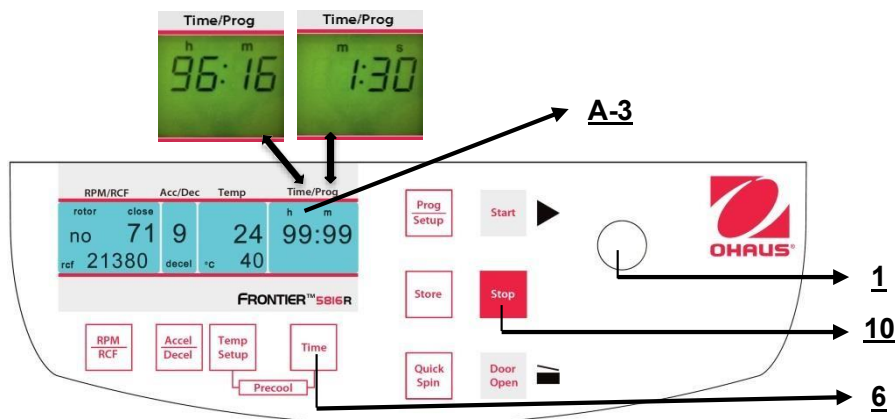

Figure. 20
3. The continuous run "cont", which can be interrupted by the key "Stop"(10) (refer to figure 20).
If the samples are temperature-sensitive it is useful to pre-cool the centrifuge, the rotor and eventually the buckets to the required working temperature. Therefore, insert the desired rotor and pre-set the respective temperature. By simultaneous pressing the keys **"Temp/Setup"** (13) (refer to figure 20) and **"Time"** (6) you start the run. While running, the unit chooses automatically a rotational speed that is equivalent to 20 % of the permitted rotational speed of the respective rotor. After the pre-set temperature is reached you can leave the pre-cooling run with the **"Stop"** key (10).